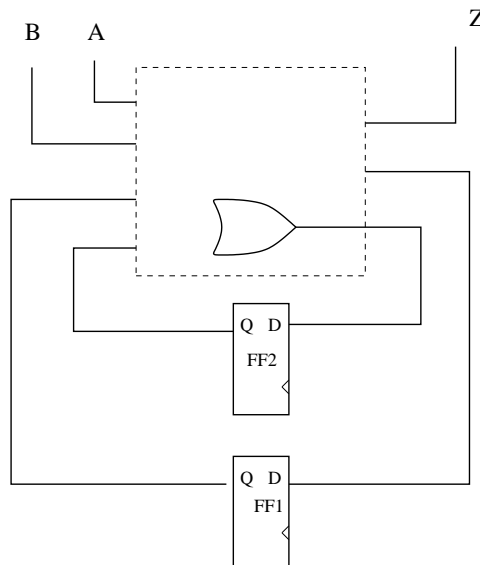

Figure 7: Figure for combinational part of the sequential circuit
- (a) (2 points) In the figure 7 below I have provided two FFs and a box for the combinational part of the circuit. Redraw the combinational part of circuit in the box and make all the connections. Note the FF labels: FF2 is drawn above FF1.